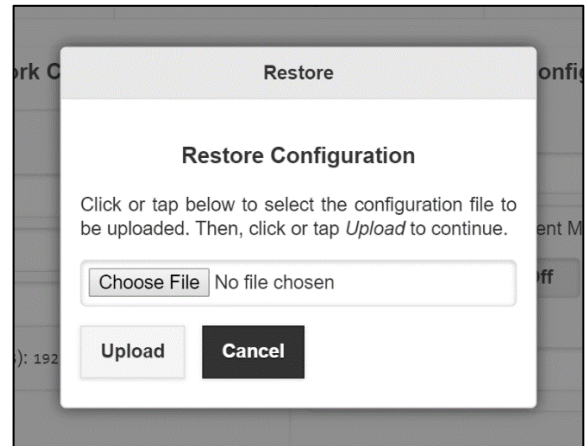

Figure 7-4 – Restore Dialog
- “*Restore Configuration*” – Clicking or tapping this button will open a prompt (see **Figure 7-4** below) to upload a previously downloaded configuration backup in order to recover previously used system settings.